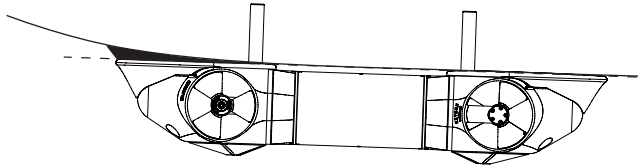

Fig. 32: **EXTURN** Duplex mounting surface
- The mounting surface for the **EXTURN** Duplex must be in-plane, if necessary a socket has to be developed accordingly (Fig. 32).